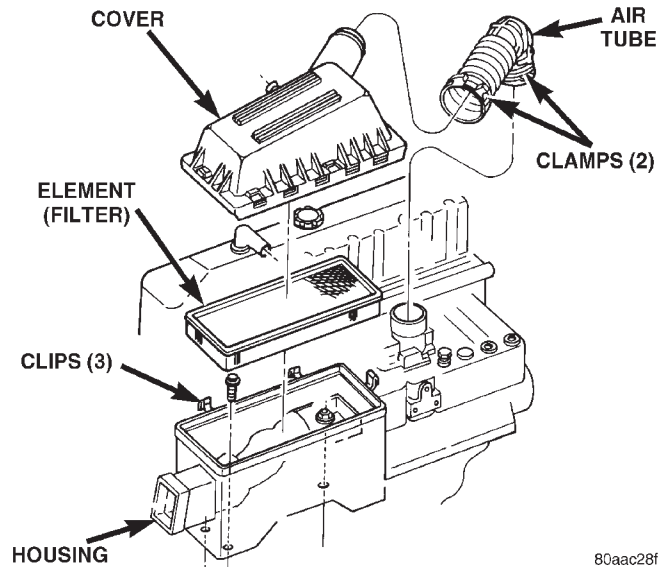
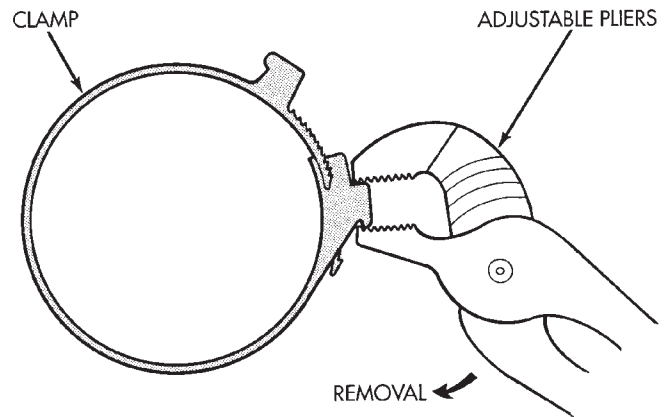

Fig. 54 Air Cleaner Housing and Element (Filter)
Fig. 55 Clamp Removal
- (1) Unlock air tube clamp (Fig. 54) at air cleaner cover. To unlock clamp, attach adjustable pliers to clamp and rotate pliers as shown in (Fig. 55).
- (2) Remove air tube at cover.
- (3) Pry back three clips retaining air cleaner cover to air cleaner housing.
- (4) Remove housing cover and remove air cleaner element.
- (5) Clean inside of housing before replacing element.